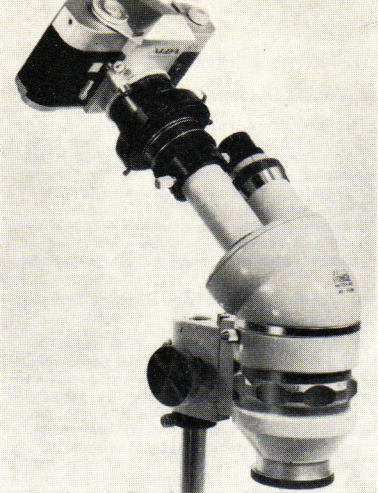

Fig. 28
4) Photomicrography (Fig. 28)
- Fitting ALPA with lens to such instruments as microscopes, oscilloscopes, etc. (Fig. 28 and 34)